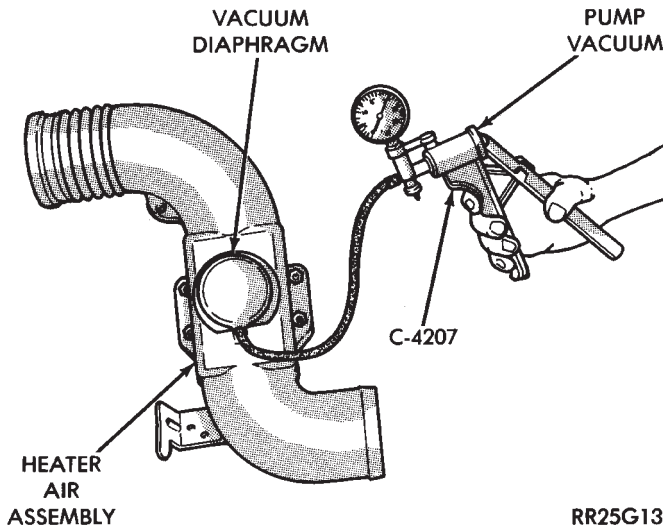

Fig. 3 Testing Vacuum Diaphragm on Heated Air Inlet Systems
(5) To test the diaphragm, apply 20 inches of vacuum to the diaphragm with vacuum pump tool number C-4207 or equivalent (Fig. 3). The diaphragm should not bleed down more than 10 inches of vacuum in 5 minutes. The door should not lift off the bottom of the snorkel at less than 2 inches of vacuum. The door should be in the full **up** position with no more than 4 inches of vacuum.
(6) If the vacuum diaphragm does not perform adequately, replace the heated air assembly.